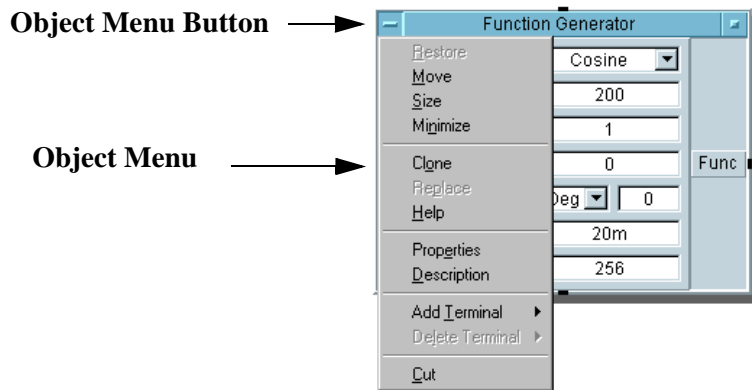

Figure 1-8. Selecting an Object Menu
1. To select the object menu, click *once* on the object menu button. (All object menus open the same way.) The object menu appears, as shown in Figure 1-8. (Do not double-click the object menu button. That is the shortcut for deleting the object.)